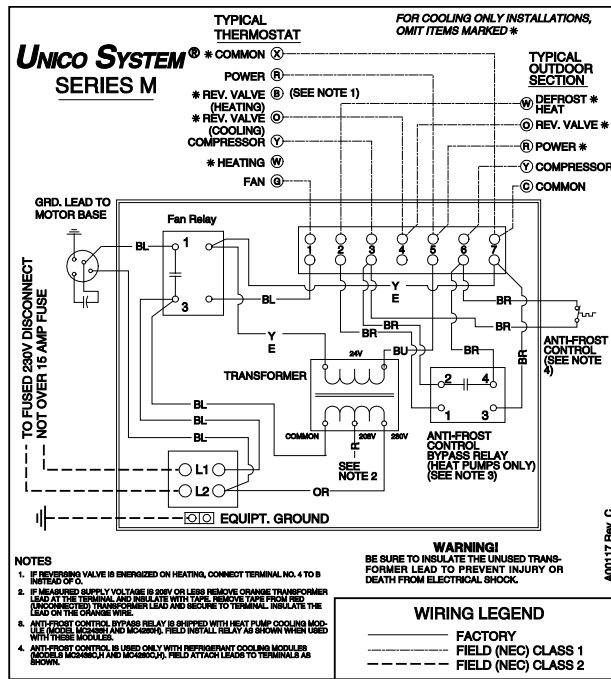
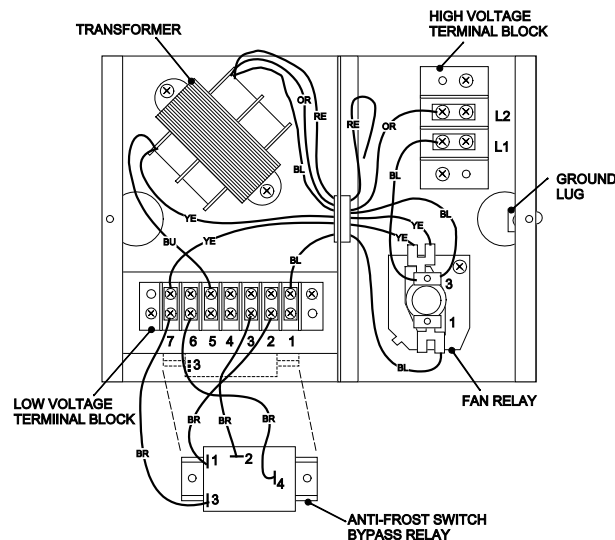

Figure 1. Wiring Diagram
Figure 2. Electrical Control Box
The electric power lines are connected inside the blower control box. If it has a circuit board, the power is connected to a set of leads as shown in Figure 1. If the blower control does not include a circuit board, then the power leads are connected to two terminals on a terminal block as shown in Figure 2.
The heat pump module includes a relay switch with lead wires (shipped in the Cooling Module carton). This relay must be installed in the control box. A space for mounting the relay is provided behind the low voltage terminal block in the control box as shown in Fig. 2. The relay prevents the unit from cycling during the defrost cycle
3. Connect the anti-frost switch bypass relay as shown in Figs. 1 and 2. Be sure the wire terminals do not contact any sheet metal. If necessary, bend the spades at a 45° angle.